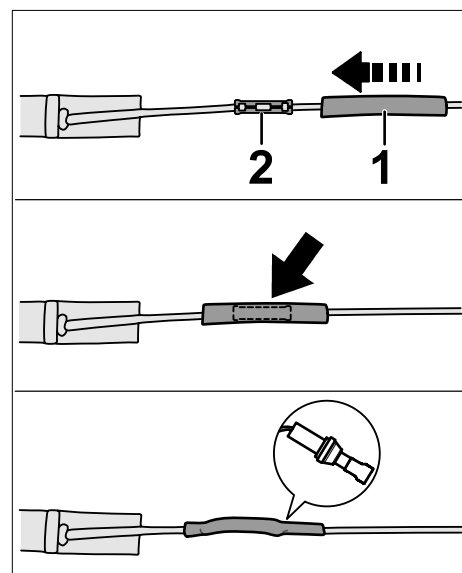

Figure 5
- 2.5 Pull shrink-fit hose ⇒ *Figure 5 -Pos. 1-* over the insulated cable connection ⇒ *Figure 5 -Pos. 2-* and center it ⇒ *Figure 5 -Arrow-*. Then heat it using the heat gun until the contours of the insulated cable connection are drawn through the shrink-fit hose ⇒ *Figure 5 -bottom-*.